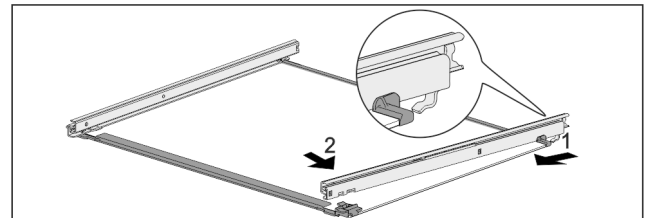

Fig. 59 Glass shelf with rails
- ▶ Hook in rail at the back. Fig. 59 (1)
- ▶ Hook in rail at the front. Fig. 59 (2)